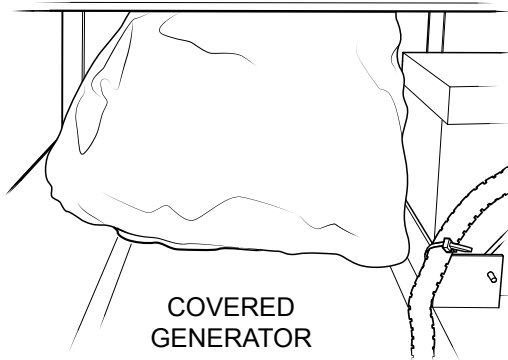

Figure 6. Covered Generator
- Cover the generator and other electronic components (Figure 6) to prevent loose metal shavings from being picked up during operation. Place a sheet of paper below the generator support plate to catch loose metal shavings.